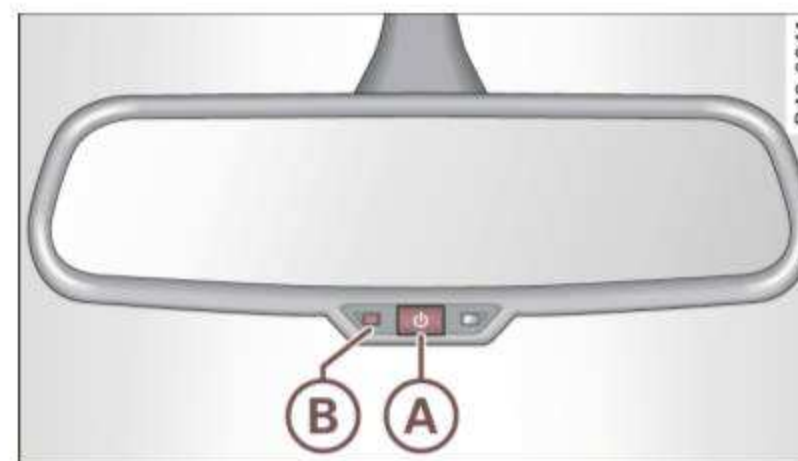

Fig. 53 Inside rearview mirror: auto dimming on/off button and indicator light
- Press button **A** ⇒ fig. 53 - the green indicator light **B** goes out.
- Press button **A** ⇒ fig. 53 - the green indicator light **B** goes on.